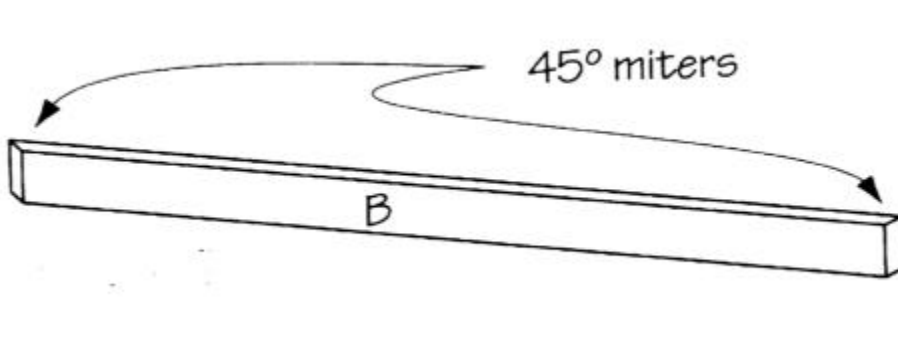

Figure 2
3. Cut four side rails (B) from 1 x 4 pine each measuring 45-1/2 inches long. Miter both ends of each side rail (B) at opposing 45-degree angles, as shown in *Figure 2*.